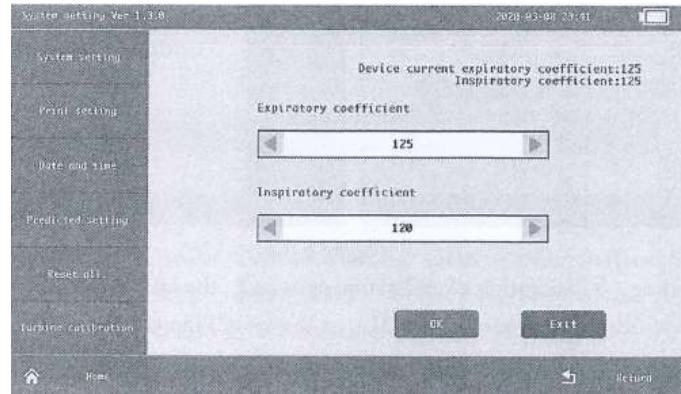

Figure 6-20
- After selecting 【Coefficient calibration】 , the interface to change the inspiration coefficient and expiration coefficient will appear, as shown in Figure 6-20.